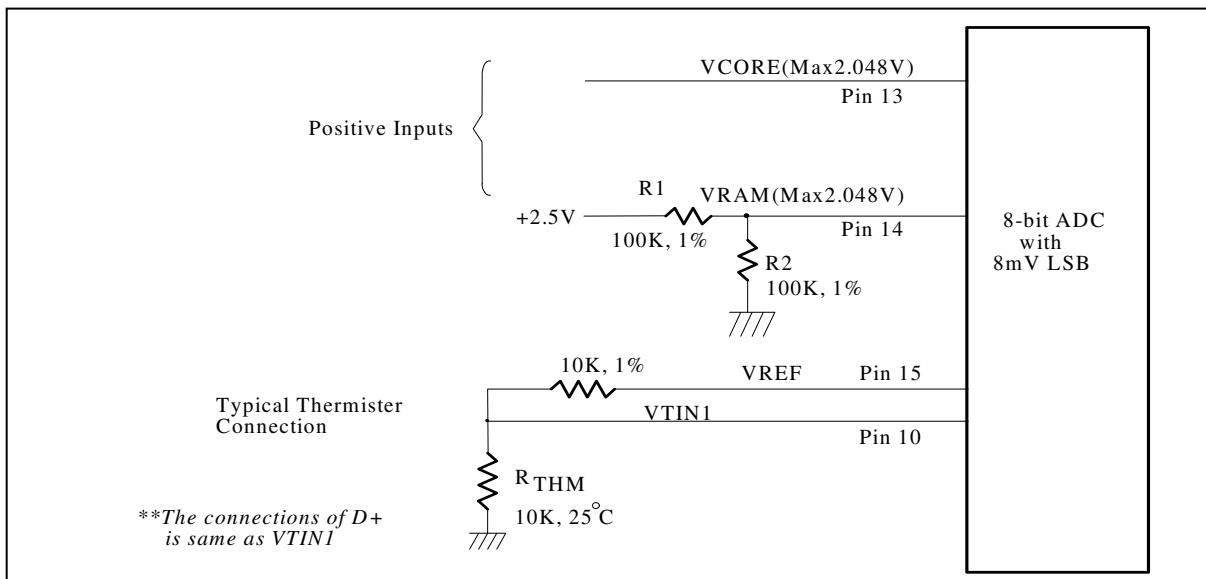

Figure 3
The maximum input voltage of the analog pin is 2.048V because the 8-bit ADC has the 8mV LSB. Actually, the application of the voltage monitoring would most often be connected to power suppliers. The input voltage lower than 2.048V could directly connect to the analog inputs. The inputs voltage higher than 2.048V should be reduced by external resistors so as to meet the input range. This is shown in Figure 3.
The W83L786NR/NG can connect one thermistor and one thermal diode sensor to measure two different environment temperatures. The specification of thermistor should be considered to (1)  $\beta$  value is 3435 K, and (2) resistor value is 10K ohms at 25°C. In the Figure 3, the themistor is connected by a serial resistor with 10K Ohms, and then connect to VREF (pin 15).